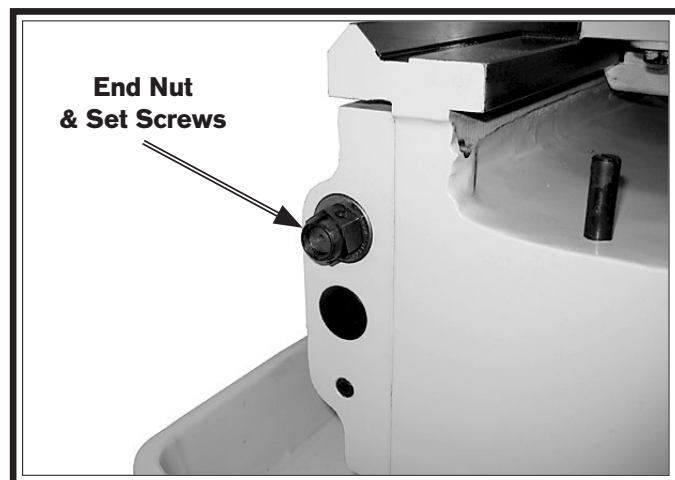

Figure 117. Leadscrew end nut.
2. Loosen the two set screws in the leadscrew end nut (see **Figure 117**).